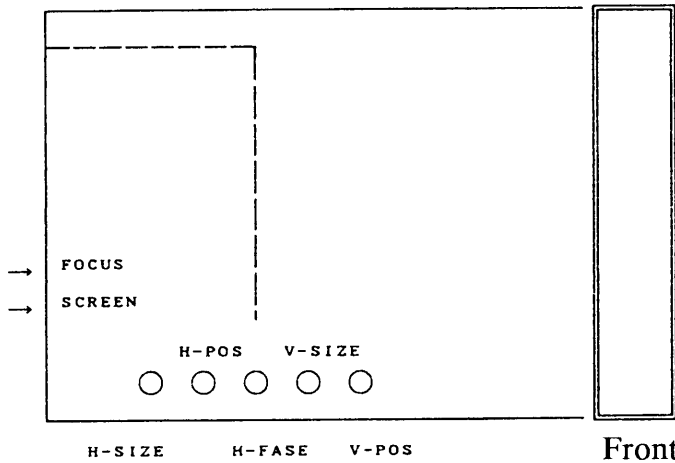

Fig. 2-2 Display Unit Left Side View
- 4) Adjust V-SIZE, V-POS, H-POS and H-SIZE potentiometers for the picture size as shown in Fig. 2-2.